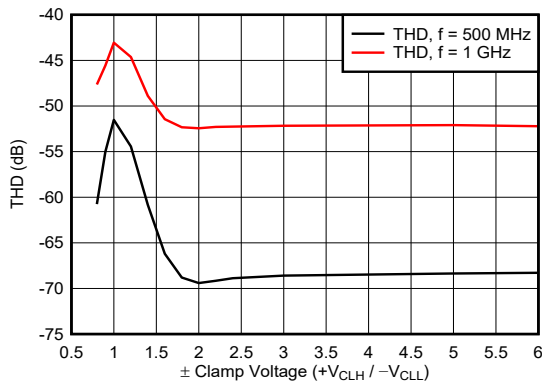

Figure 8-4. THD vs  $V_{CLH} / V_{CLL}$  for  $V_{OUT} = 1 V_{PP}$
- The output THD of the BUF802 degrades when  $V_{CLH}$  and  $V_{CLL}$  are set close to the expected  $V_{OUT}$  peak value. To prevent signal degradation, maintain at least a 1.5 V difference between the expected peak output voltage and the clamp voltage applied at the CLH and CLL pins. Figure 8-4 shows the relation between the absolute clamp voltage value and THD for a 1 VPP output.